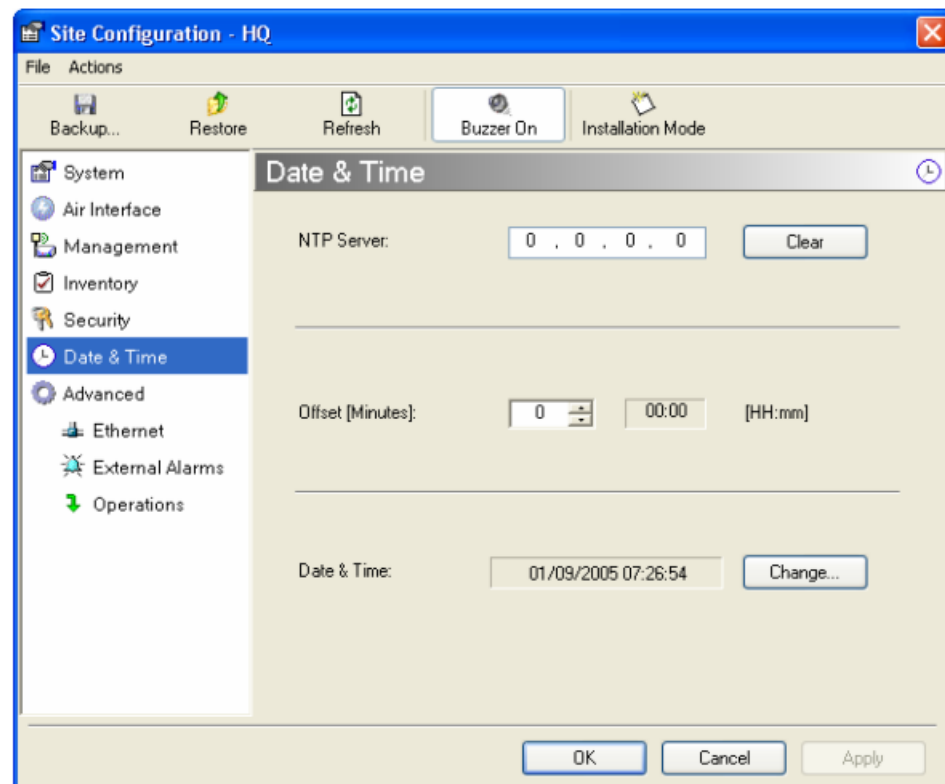

Figure 4-14. Date & Time Configuration
3. Select Date & Time (see Figure 4-14).